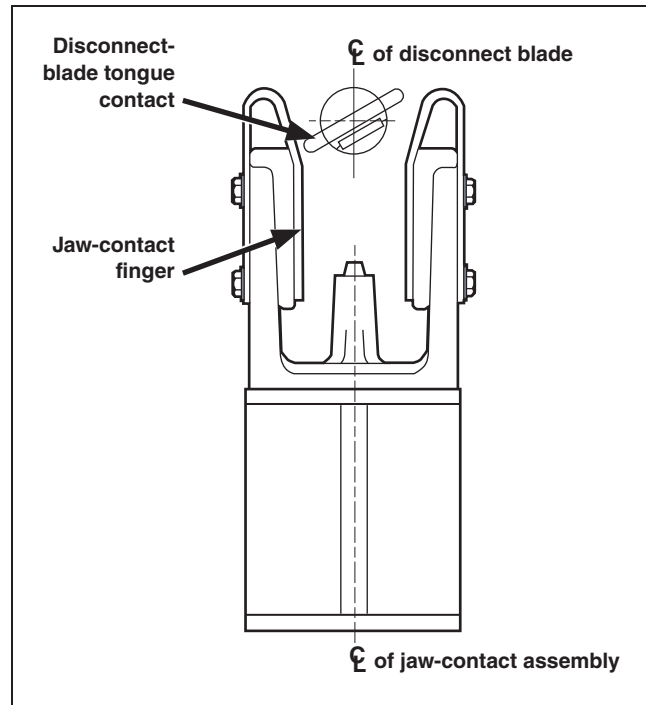
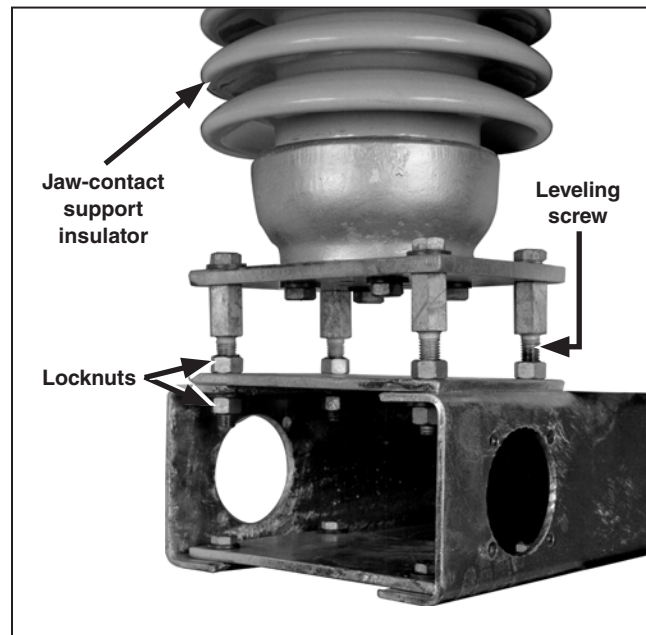

Figure 21. Checking the alignment of the disconnect blade and the jaw contact.
Figure 22. Adjusting the leveling-screw locknuts.
- (b) Rotate the shaft, clockwise only, just to the point at which the disconnect-blade tongue contacts clear their respective jaw-contact fingers. See Figure 21.
With the disconnect blades maintained in the position shown in Figure 21, check each blade to verify its centerline has not shifted left or right by more than $\frac{1}{4}$ -inch (6 mm)—as measured to the centerline of its respective jaw contact. If any blade centerline has shifted by more than $\frac{1}{4}$ -inch (6 mm), loosen the leveling-screw locknuts located under the associated jaw-contact support insulator. See Figure 22.